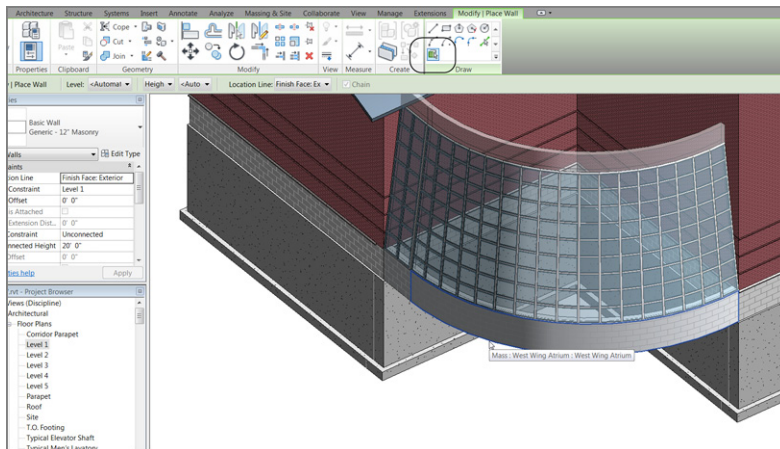

FIGURE 16.52: Adding something on which to bear
4. On the Draw panel, click the Pick Faces button, as shown in Figure 16.52.
6. Pick the bottom faces of the mass (see Figure 16.52).